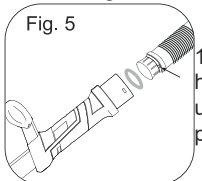

Fig. 5
1. Insert the extraction hose into the hose lock until it is in place completely. (Fig. 5)